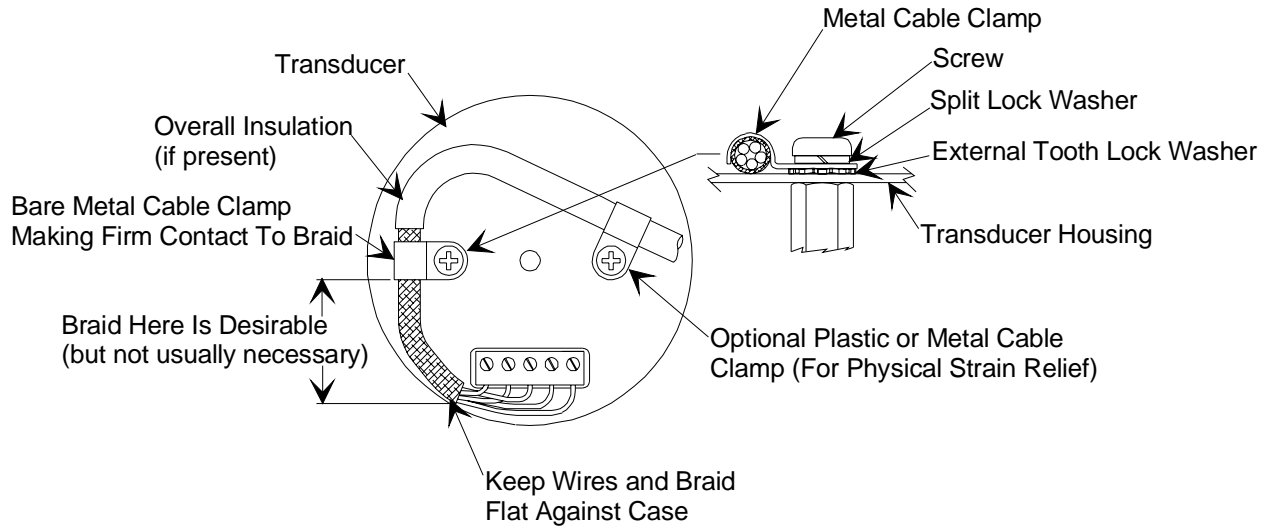

Figure 1: Preferred Method To Connect an Overall Metal Braided Shielded Cable
4. For shielded cables with flying leads at one or both ends; it is important at each such end, to ground the shield *before* the wires exit. Make this ground with absolute minimum length. Refer to Figures 1 and 2, page 30. (A ¼ inch piece of #22 wire may be undesirably long since it has approximately 5 nH of inductance, equivalent to 31 ohms at 1000 MHz). After picking up the braid's ground, keep wires and braid flat against the case. With very few exceptions, grounded metal covers are not required over terminal strips. If one is required, it will be stated in the Declaration of Conformity or in the instruction manual.